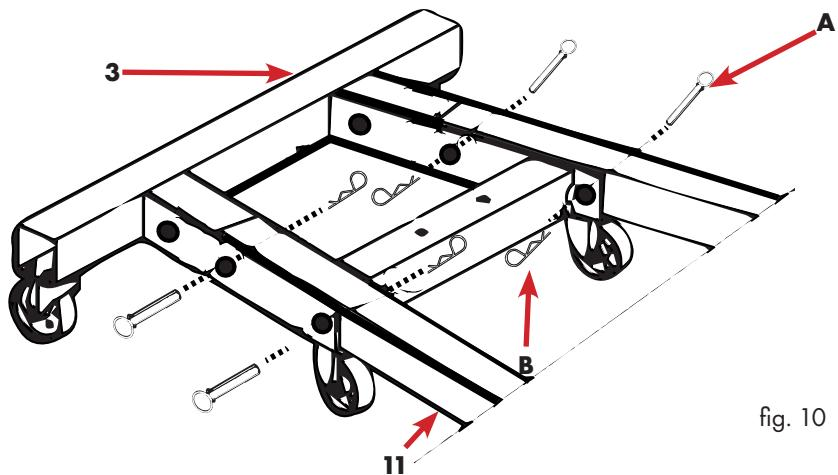

fig. 10
- Secure the split pin from the inside with the splint,fig.10.
Legend Figure 10 (see also from page 15, Figure 2 and Table 1)